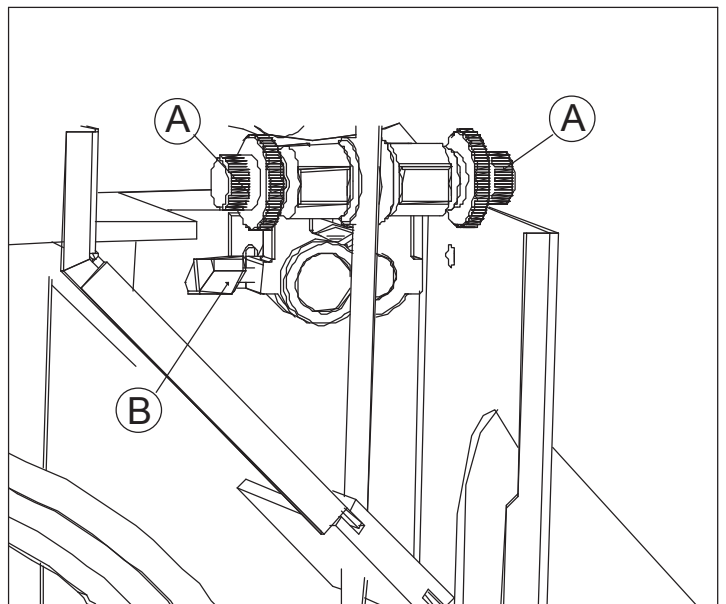

Fig.4.5.2
- To roller bearing should lightly touch the blade, to prevent vibration during operation and ensure correct direction of cutting. The positioning of these rollers is controlled by screw "A"(Fig.4.5.2), once they have been adjusted, tighten the screw "A"(Fig.4.5.2); they should be 2 mm behind the teeth of the blade. The thrust shaft prevents excessive backward movement of the blade whilst in operation , and should be 1-2 mm from the back of the blade: this can be adjusted by screw "B"(Fig.4.5.2).